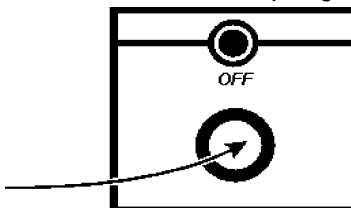

Figure 33. Off Switch
4. Press the "Off" button to stop engine (Figure 33).